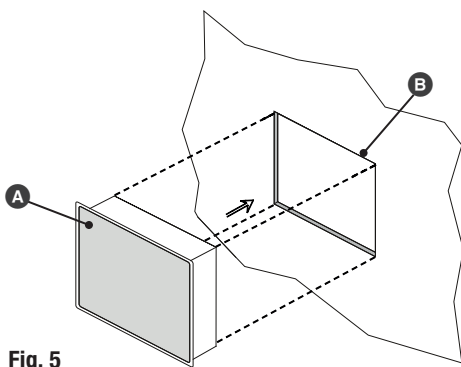

Fig. 5
1. Cut an aperture (see Fig. 5) in the control cabinet door or switch panel.